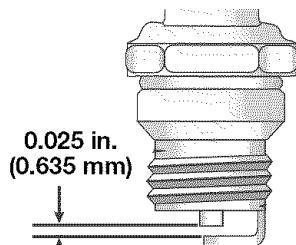

Fig. 21
3. Replace a cracked, fouled or dirty spark plug. Set the air gap at **0.025 in. (0.635 mm)** using a feeler gauge (Fig. 21).